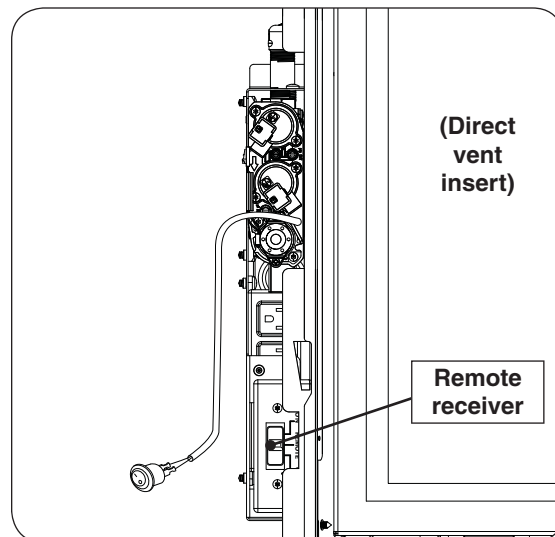

Fig. 27-2 Control box (left side of unit)
1. Locate the remote transmitter, remove the lid (found on rear), and properly insert the batteries as marked. Re-secure the lid. See Fig. 27-2.